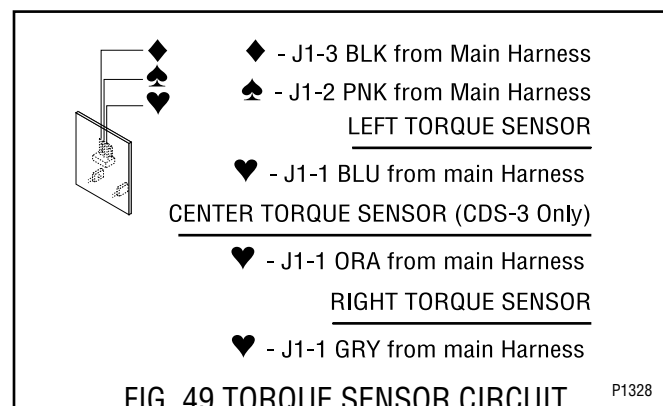

FIG. 49 TORQUE SENSOR CIRCUIT BOARD TERMINALS
11. Refer to Fig. 49 and reconnect the wires.
15. Refer to Fig. 49 when reconnecting the wires.